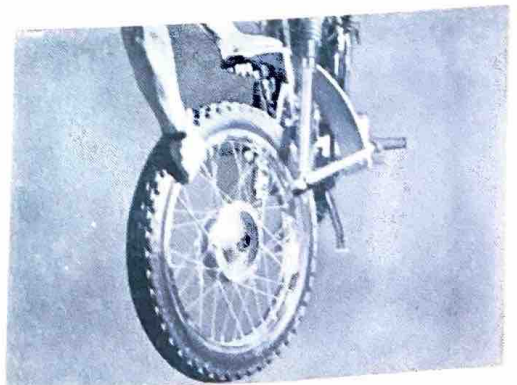

Fig. 4-1-4
- c. Remove the front wheel ass'y. (Fig. 4-1-4)